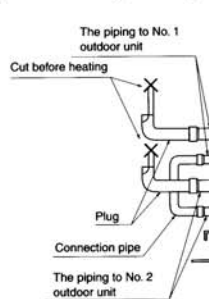

Fig. 8
- Before heating the pipes to remove the plugs and connection pipe, remove the service plate and cut the plug ends (refer to Fig. 8).